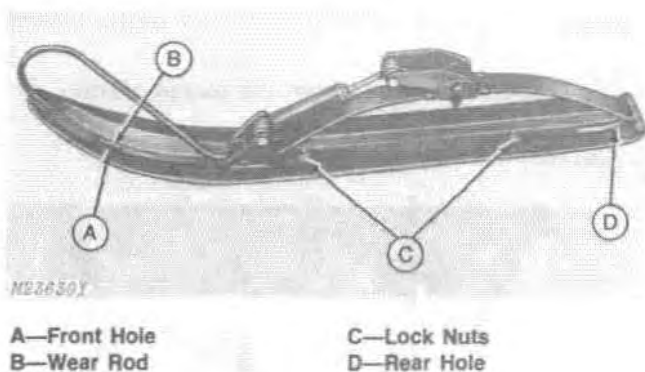

Fig. 7-Removing Wear Rod
1. Remove lock nuts (C, Fig. 7). Pry wear rod (B) down to free studs from holes.
2. Slide rod forward to free rod from rear hole (D).
3. Place front of new wear rod in position through front hole (A). Slide wear rod to rear to position studs and rear of rod.
4. Install and tighten lock nuts (C).